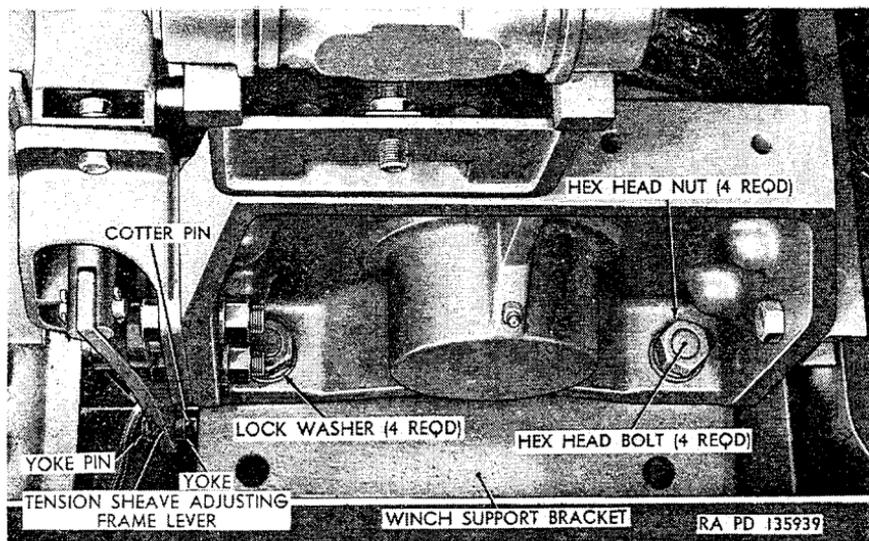
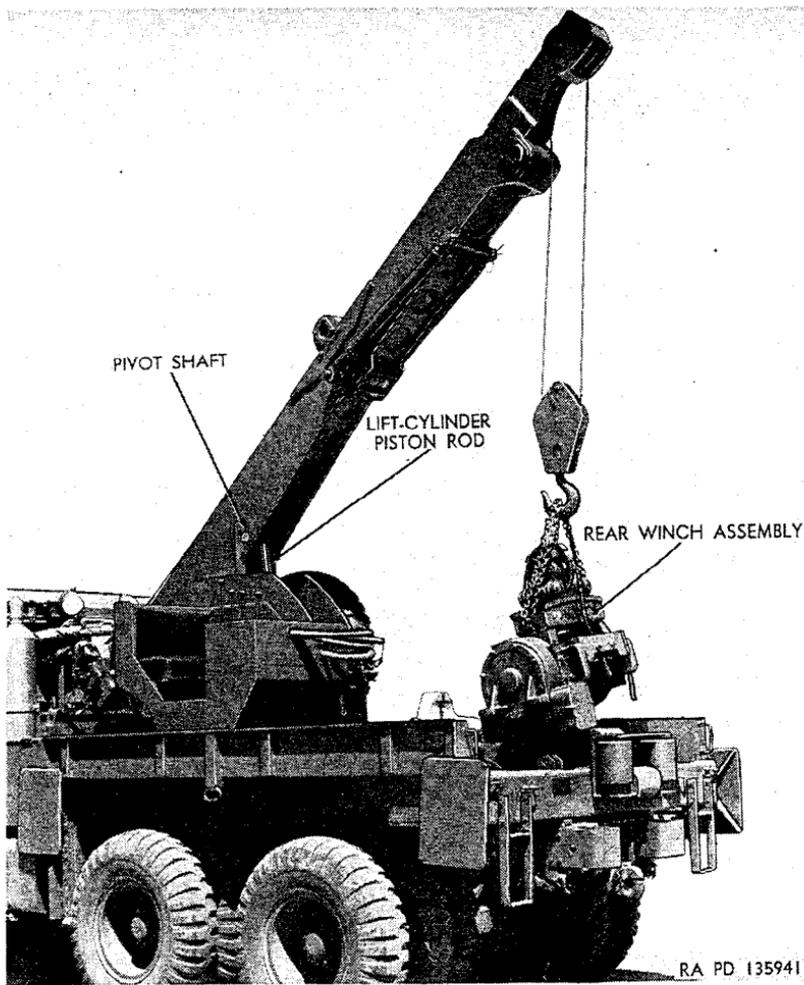

Figure 279. Top view of right end of rear winch—installed.
Figure 280. Removing rear winch assembly using wrecker crane.
- (d) Check opening between sheaves with a $\frac{5}{8}$ -inch diameter rod. If rod cannot be inserted between sheaves, or if rod fits loosely between sheaves, adjust cable tensioner ((2) below). If opening between sheaves is correct (sheaves just closed on rod), proceed as in (2) (g), (h), and (i) below.
- (a) Remove cotter pin (fig. 279) and yoke pin securing air-chamber push rod yoke to lower end of tension-sheave-adjusting-frame lever, and remove yoke from lever.
- (1) Remove cotter pin (fig. 279) and yoke pin securing air-chamber push rod yoke to lower end of tension-sheave-adjusting-frame lever, and remove yoke from lever.
- (3) Remove drive chain (par. 265*i*).
- (4) Remove four hex-head bolts (fig. 279), nuts, and lockwashers securing winch to left and right support brackets.
- (5) Remove chain and hook assembly from winch cable.
- (6) Using wrecker crane (fig. 280) or other overhead hoisting equipment, remove rear winch from vehicle.
- (1) Lift rear winch into position on rear of wrecker body, and align winch mounting holes with holes in left and right support brackets.
- (2) Secure winch to support brackets with four hex-head bolts (fig. 279), lockwashers, and nuts.
- (6) Position air-chamber push rod yoke on lower end of tension-sheave-adjusting-frame lever (fig. 279), and secure with yoke pin and cotter pin.